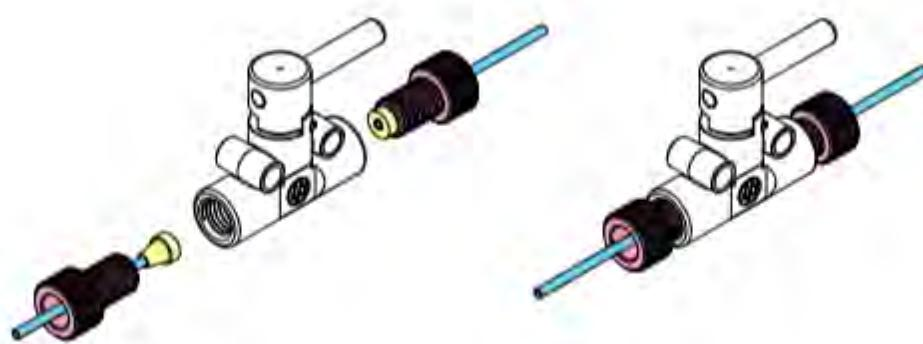
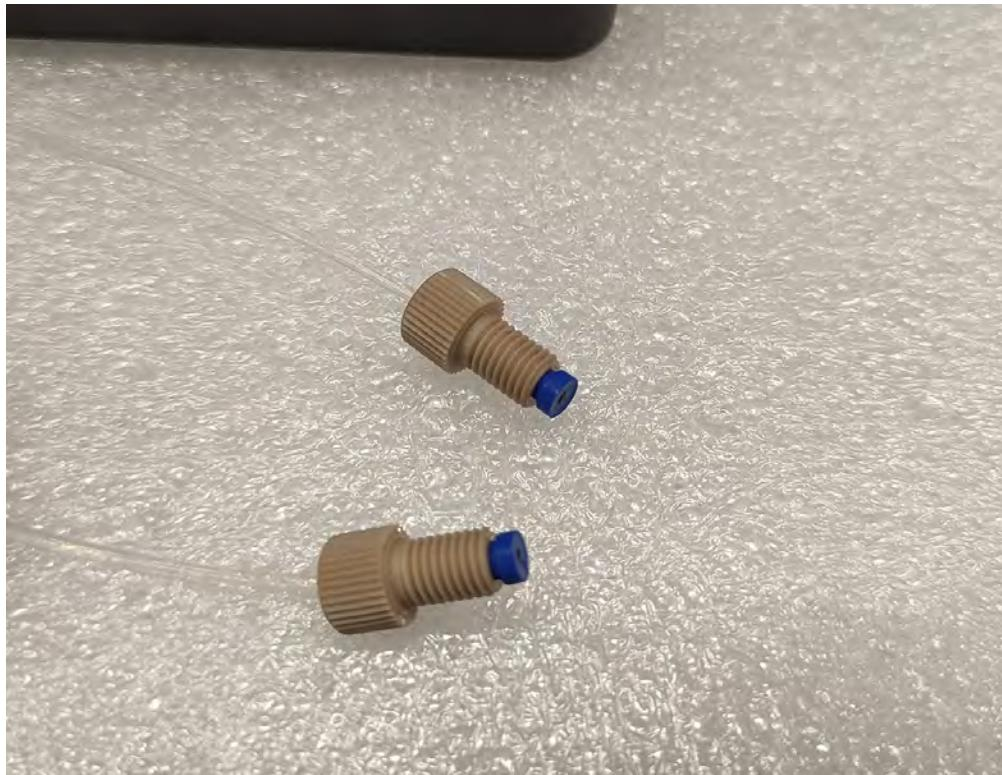

Figure 12.1.1: Figure: Exploded view of the valves.
Figure 12.1.2: Figure: Tubing with ferrules.
1. Cut 2 pieces of tubing to the desired length to connect the pressure box with the Automatic fluidics and the latter with the Flow Cell (always use an appropriate tubing cutter to ensure a good connection). Unscrew the fittings and guide the tubing through, connecting the corresponding ferrule from the other side (see Figure 12.1.1 and Figure 12.1.2).